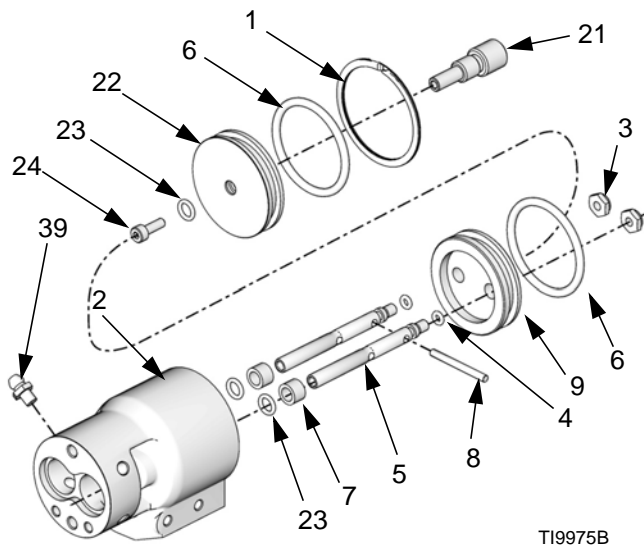

FIG. 6
7. Remove the retaining ring (1) from the back of the air cylinder (2). Push the two shafts (5) into the air cylinder (2) to dislodge the air cylinder cap (22). See FIG. 6.
8. Push the two shafts (5) to dislodge the piston (9) assembly from the air cylinder (2).
9. Use an o-ring pick to remove the o-rings (23) and use a screwdriver to remove the sleeve bearings (7) from the air cylinder (2).
10. Remove the o-rings (6) from the piston (9) and air cylinder cap (22).
11. Remove the screw (24) and snuff-back adjustment knob (21) from the cap (22). Use an o-ring pick to remove the o-ring (23).
12. Remove the lock nuts (3), the pin (8), o-rings (4), and piston o-ring (6) from the shaft (5).
1. Lubricate the shaft o-rings (23) and the bearings (7). Insert o-rings into the air cylinder (2) and air cap (22) cavities. See FIG. 6.
6. **255179 and 255181**, Insert the seals (26) with the springs facing into the fluid housing (14).
7. With the "X" on the nosepiece on the same side as the "MD2" on the air cylinder, install the nosepiece (31) with the o-rings (20), seats (27), and nosepiece screws (19). Tighten the nosepiece screws to 115-120 in.-lb (14-15 N•m).
8. **255181 and 255182**, Install injector tube (30) with assembly tool (48). Torque to 168-192 in.-lb (19.0-21.7 N•m).
9. **255181 and 255182**, Install injector tip (47) and torque to 60-72 in.-lb (6.8-8.1 N•m).
10. Remove zerk grease fitting (39). Fill grease in the grease port below until grease begins to exit where the zerk grease fitting (39) was located. Repeat for the other zerk grease fitting (39). See FIG. 6.